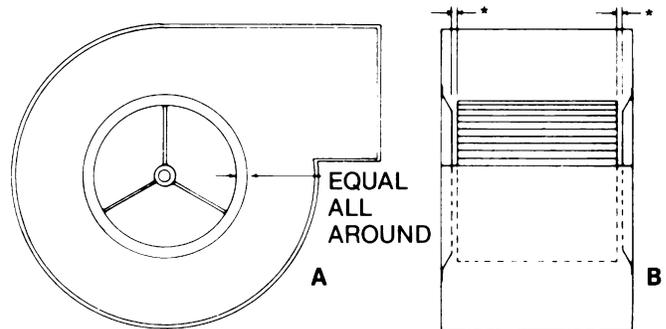

FIGURE 1 * EQUAL
14. Check wheel position in scrolls. See Figure 1 a and b.